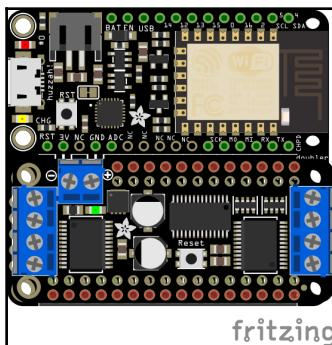

Figure 8.7: Placing the DC Motor FeatherWing on the FeatherWing Doubler
5. Place the Adafruit Stepper and DC Motor FeatherWing on the FeatherWing Doubler next to the Feather HUZZAH ESP8266 (*Figure 8.7*):